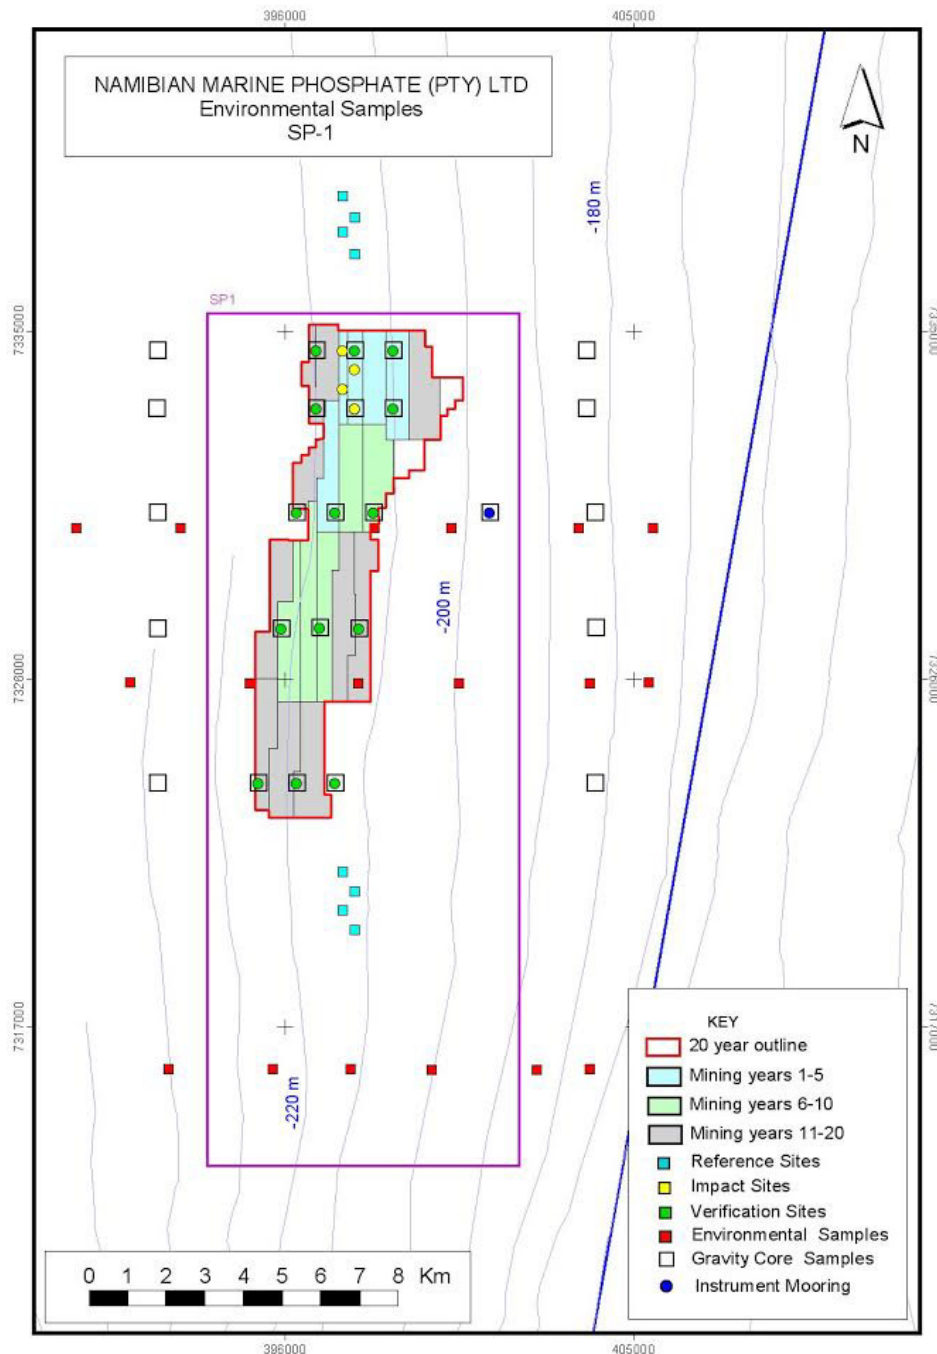

Figure 1-3 : Verification sampling sites in Mine Area SP-1.
Sampling procedures for this verification survey will involve sampling of the water column, sediments and benthos (for a companion investigation) in the mining licence area. A grid of sampling sites will be placed across SP-1 such that the broad distributions of sediment properties across the entire mine site can be determined. Figure 1-3 shows the sampling station layout. The location of the oceanographic mooring that is to be serviced during the survey is also shown.
A Box core (GOMEX) will be used to sample surficial sediments for particle size and texture, chemical properties, macrobenthos and meiofauna. In total, 26 verification box core samples will be undertaken. These will be collected in a configuration of 5 transects of 5 stations each (Figure 1-3) and an additional box core sample will be carried out at the site of the mooring deployment. 12 Monitoring sites (reference and impact sites) will also be sampled during the verification survey; these are situated to the north (reference), middle (impact) and south (reference) of the 20 year mining outline. At each of these monitoring sites 5 replicate samples will be collected, using the same methodology as will be used for the verification sites. Sampling at SP-2 and SP-3 will take place upon completion of the collection of SP-1 samples. Subsamples from each box core retrieval will be collected for meiofauna analysis as well as the analysis of sediment particle size, heavy metals, AVS and SEM, organic C and N content. At all of the verification sites located within the 20-year mining
- For the macrofauna samples: These samples are to be collected at the monitoring sites (impact and reference sites) as well as at the verification sites within the 20 year mining licence. The verification sites not identified for benthos sampling (green squares in Figure 1-3) will only have chemical samples collected from them.